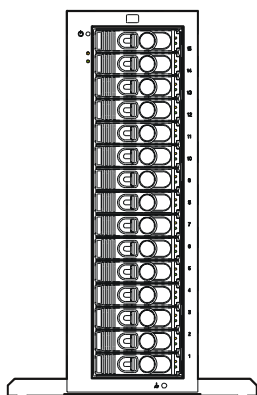
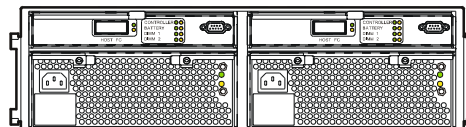

Fig. 1. Desktside Array - Front View
Fig. 4. Racked Array - Rear View
*The installation steps in this guide show only field- and factory-racked arrays for simplicity. The desktside array differs from the racked array mainly in its orientation (see Fig. 1 through Fig. 4). Refer to these figures when locating corresponding parts on a desktside array.